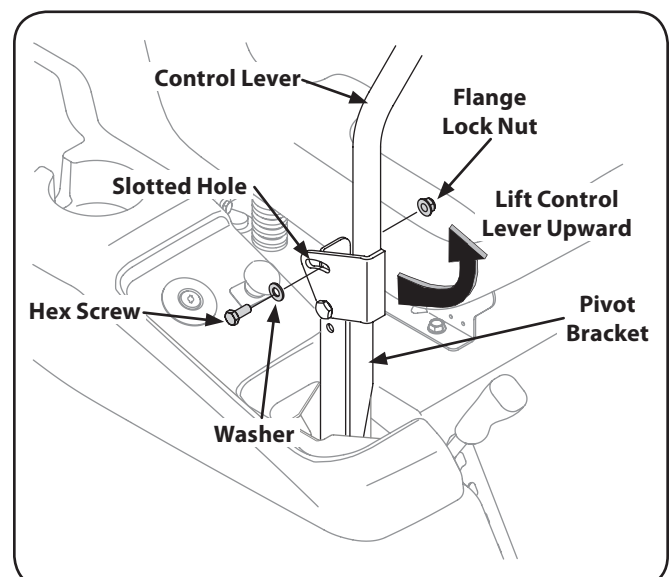

Figure 3-6
2. Lift and swing that control lever upward until the slotted hole in the lever bracket aligns with one of the holes in the pivot bracket. See Fig. 3-6.
3. Slide the flat washer onto the hex screw. From the outside, insert the hex screw with washer through the control lever slot and the hole of the pivot bracket. Secure with the flange lock nut. See Fig. 3-6.